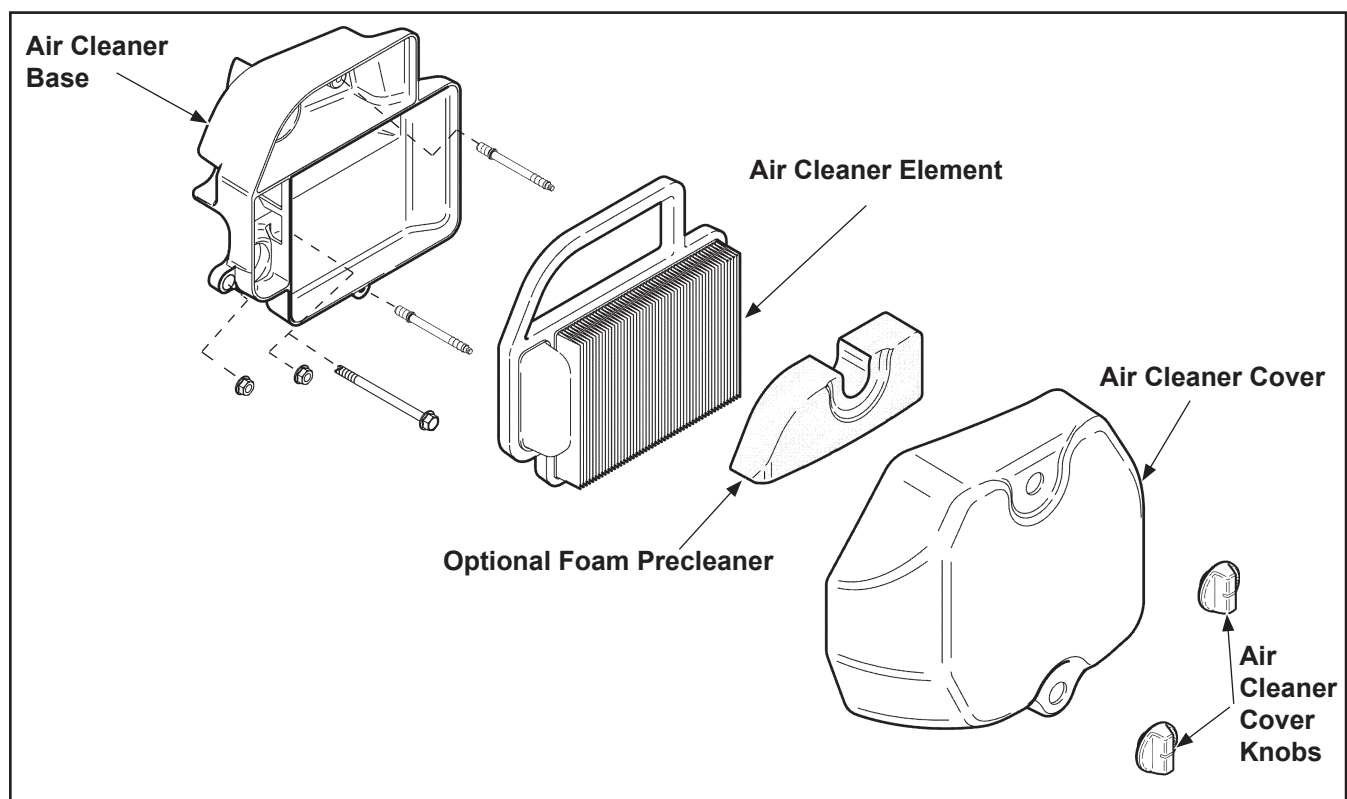

Figure 4-1. Air Cleaner Assembly - Exploded View.
These engines are equipped with a replaceable, high density, paper air cleaner element. Some engines also have an oiled, foam precleaner, located in the outer air cleaner cover. See Figure 4-1.
6. Reinstall the precleaner (if so equipped), into the upper section of the air cleaner cover. Make sure the hole in the precleaner is aligned with the upper mounting knob. See Figure 4-1.